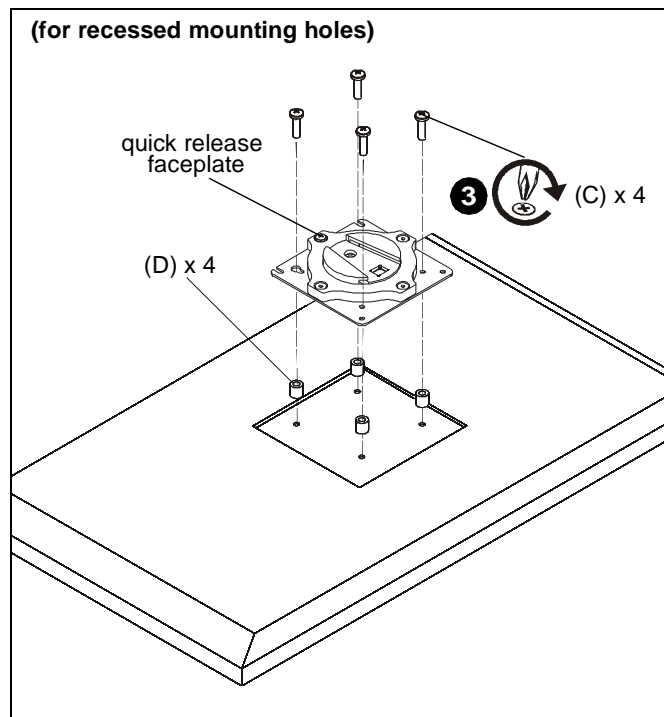

Figure 5
- Place four spacers (D) on top of mounting holes on back of display. (See Figure 5)
- Using Phillips screwdriver, carefully install four M4x20mm screws (C) through corresponding holes on faceplate, spacers (D) and into the mounting holes on the display. (See Figure 5)